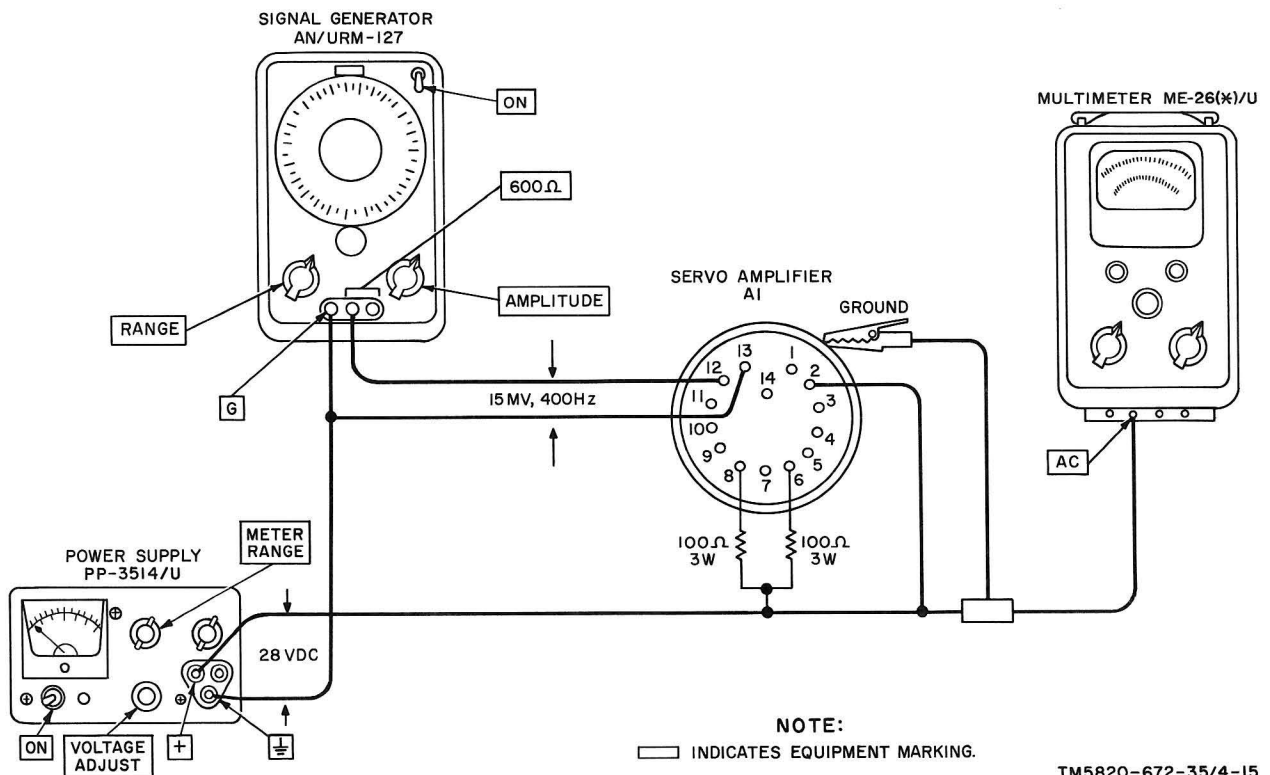

Figure 2-4. Servoamplifier trouble isolation test setup.
(1) Turn C-7207/GRC mode switch to USB and measure servoamplifier input ripple with ME-26(*)/U connected across pins 12 and 13 of servoamplifier connector (ground on pin 13). The ME-26(*)/U shall indicate between 20 and 50 millivolts ac.
(2) Connect ungrounded ME-26(*)/U across pins 6 and 8 of connector J4 (ME-26(*)/U set to ac volts). If chopper is operating, indication on ME-26(*)/U shall be approximately 1,000 times greater than measured in (1) above.
(3) If results obtained in (2) above are satisfactory, servoamplifier module is operating correctly. If no output from servoamplifier is obtained in (2) above, check if +28 volts is present on pins 2, 6, and 8 of J4 and ground pin 13 and 4 of J4. If these conditions are present and no output is obtained, servoamplifier module is faulty and shall be repaired.
(4) Remove servoamplifier module from F-1138/GRC and disassemble as outlined in paragraph 3-4 or 3-5. Connect disassembled module to test setup shown in figure 2-4. The junction of two loads shall be connected to 28 volts dc. The input voltage shall not exceed 50 millivolts. Trace signal through module using figure 5-6 or 1-5.